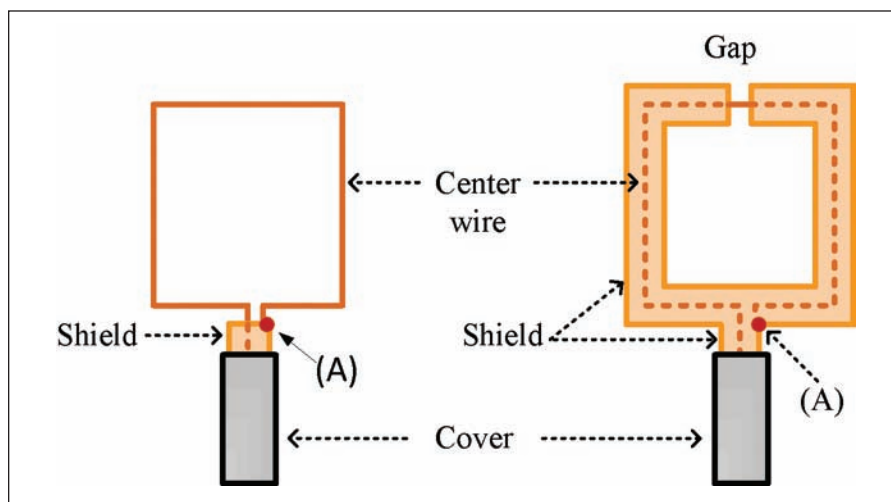

Figure 4: Square loop from a coax cable unshielded (left) and shielded (right).
Better shielding effectiveness is obtained if the gap is located in the middle of the loop as shown in Figure 4. In that way, electric field symmetry is obtained.
The loop is formed by making a square from the coax with a gap placed symmetrically in the middle of the loop as in Figure 4. The center wire is connected again to shield in point (A).